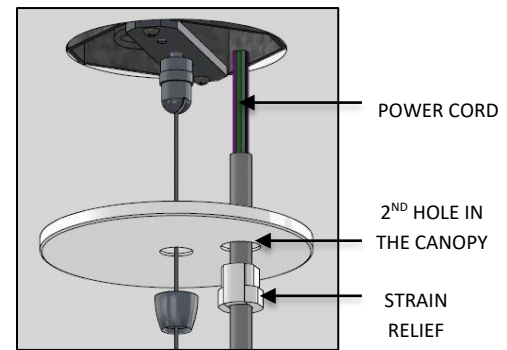

FIG. 19 – CORD INSTALLATION
16. Feed POWER CORD through the 2ND IN THE CANOPY and secure at desired length by using the STRAIN RELIEF provided as shown below in FIG. 19.